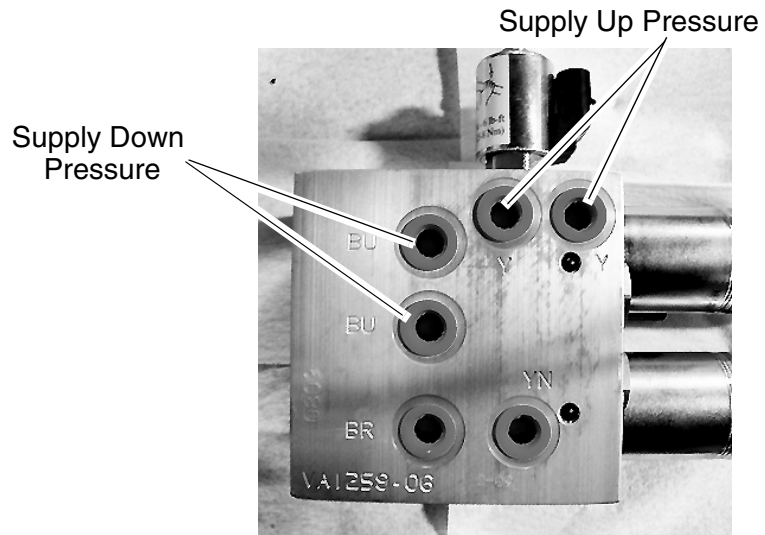

Figure 18
- b. Remove the four pipe plugs BU and Y (Figure 18).